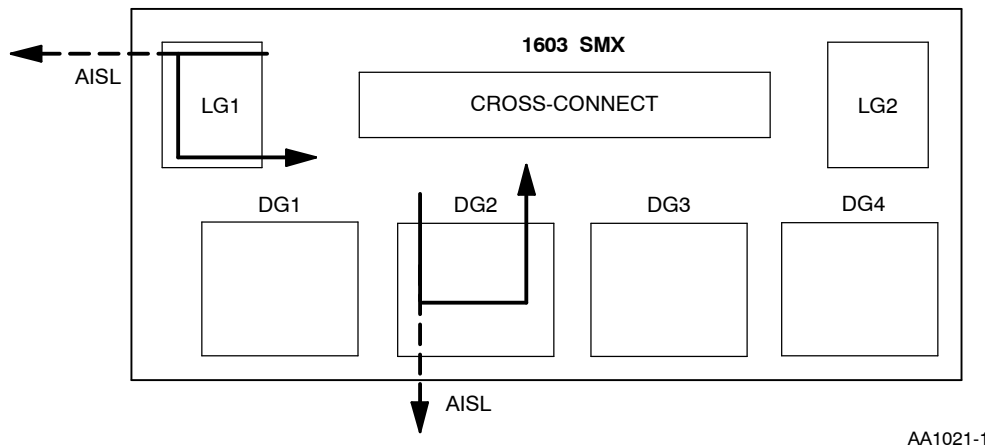

Figure 1. OC12 Loopback Toward Terminal (NE)
- 3 See Figure 1. Operate a loopback toward the NE (terminal):